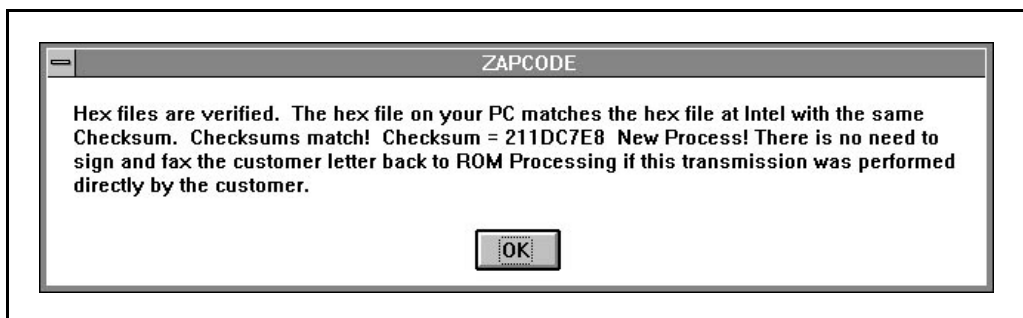

Figure 8-13. Example of a Successful Checksum Message
- If the checksums on your computer and at Intel are the same, ZapCode II will display a screen message like the example in Figure 8-13.